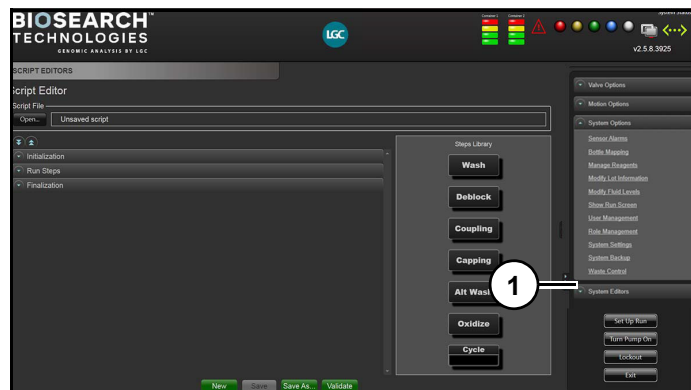

Figure 67
System Editor (1) (Figure 67) allows user to modify and create script files.